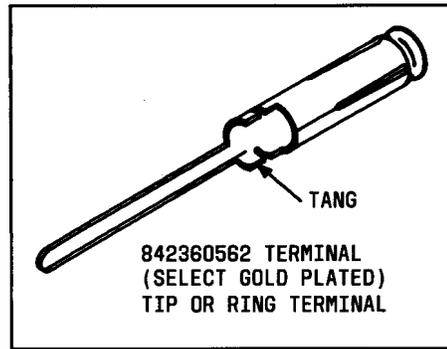

Fig. 3—Tip or Ring Terminal
4.17 842360562 Terminal (Fig. 3): To replace terminal proceed as follows: